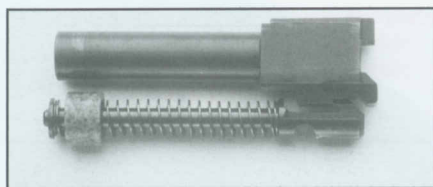

Figure 6 (relationship of recoil spring assembly to barrel locking block inside of slide)
3. Align the opposing angled locking surfaces on the rear end of the recoil spring guide rod with those located on the bottom of the barrel locking block. (See Figures 6 & 7)
4. Push the rear of the recoil spring assembly forward enough so that the recoil spring retainer can be engaged on the shelf provided on the front of the barrel locking block. (See Figure 6, 7, & 8)